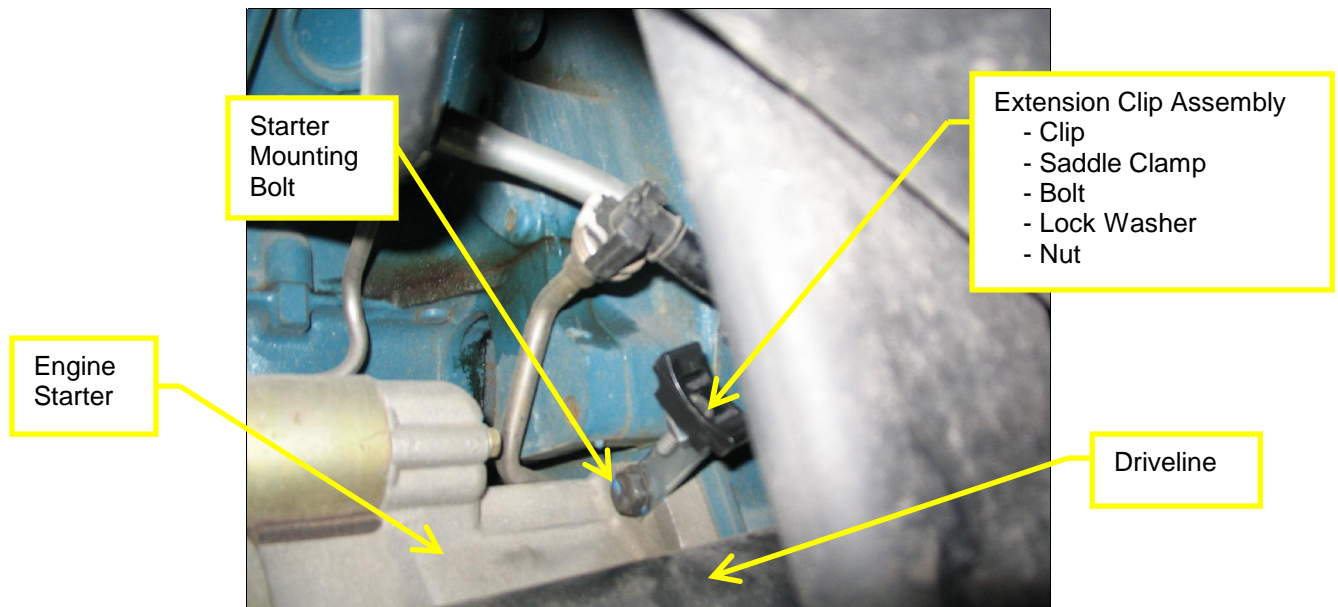

Figure 2.
7. Install extension clip assembly onto the engine starter using the existing starter mounting bolt as shown in Figure 2. The parts needed are: 308578C1 extension clip, 2041341C1 saddle clamp, 25483R1 bolt, 120380 lock washer, and 25519R1 nut.